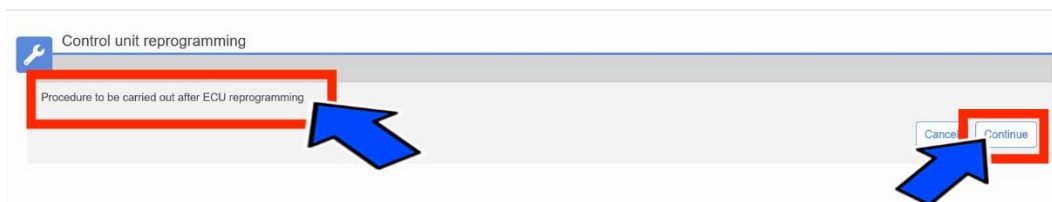

Figure 27 - Procedure to be Carried Out After ECU Reprogramming
- Select “**Procedure to be carried out after ECU reprogramming**” and then click “**Continue**” (Figure 27).